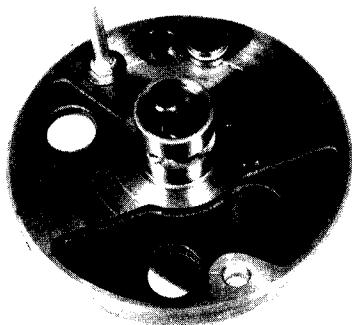

FIG. 4.62-PINTLE DAMPENING PISTONS
12. Remove and check dampening pistons if necessary. They are located as shown in Fig. 4.62. To remove, hold pintle with pistons away from you and facing down. Tap outside edge of pintle on work bench firmly being careful not to strike shaft portion on anything. If this does not dislodge pistons, they more than likely do not need service. But, if they are scored on the surface and need replacement, they may be removed by cementing a bolt to the face of the piston as shown in Fig. 4.62 and pulling straight out. The pistons are reversible, however the "O" rings and back-up rings on the pistons must be installed so that the back-up rings are toward the outside.